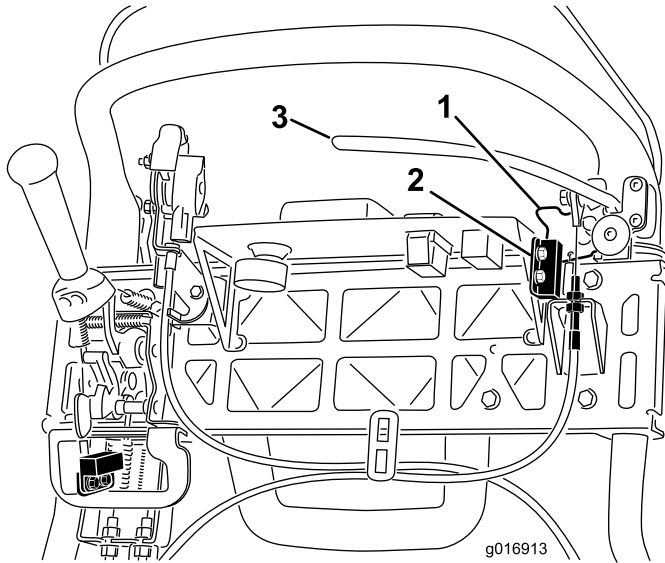

Figure 40
4. Loosen the interlock switch mounting fasteners (Figure 40).
5. Place a 1.6 mm (0.062 inch) thick shim between the parking brake latch and the interlock switch (Figure 40).
4. To increase the cable tension, loosen the upper cable jam nut and tighten the lower cable jam nut (Figure 40) until a force of 156 N (35 lb) applied to the brake lever handle, is required to release the parking brake latch. Do not over adjust or the brake band may drag.